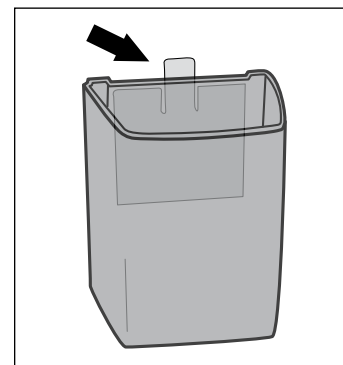

Figure 3
1. Remove lid. Push down on back plate and detach dispenser from back plate. (See Figure 3)